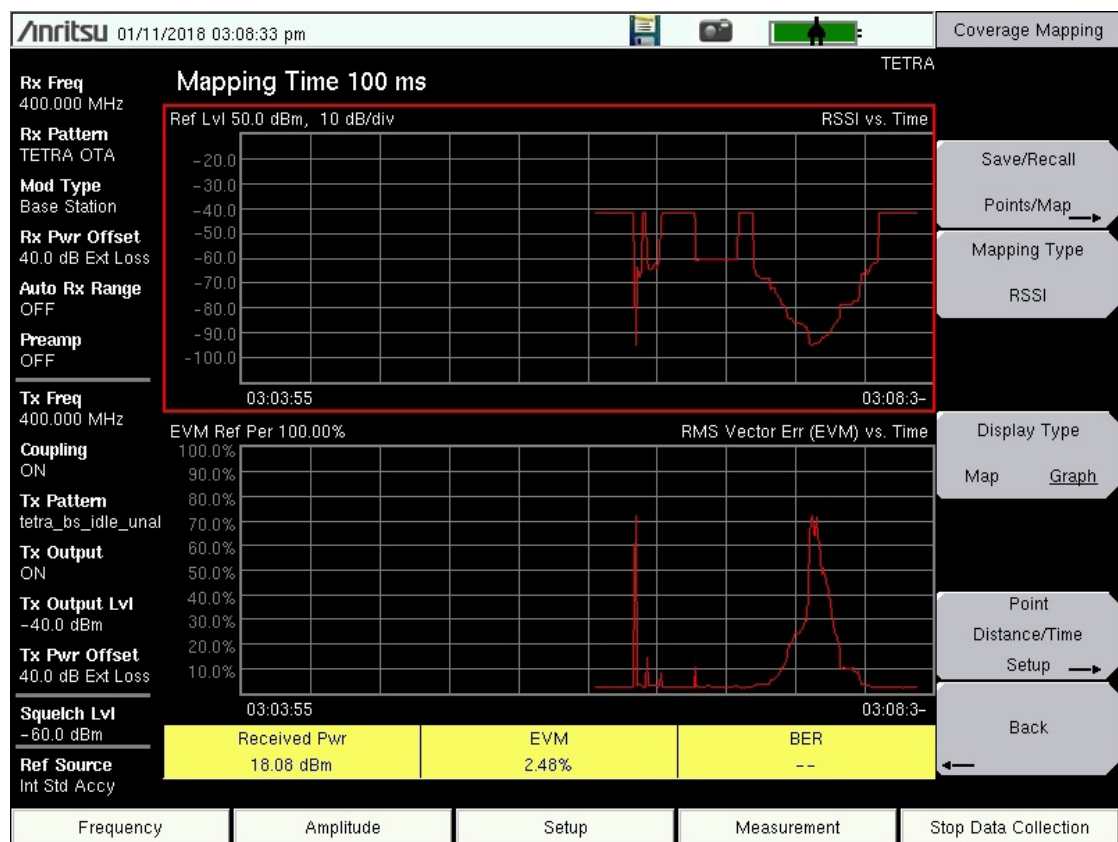

Figure 11-9. Display Type = Graph
3. If the Display Type is Map, then press the Display Type key again to toggle the setting to Graph. The display then shows two graphs. Figure 11-9 shows the Graph Display Type for TETRA analyzer. The two graphs may be any two types from the Mapping Type selection list. The figure shows EVM plotted versus time.